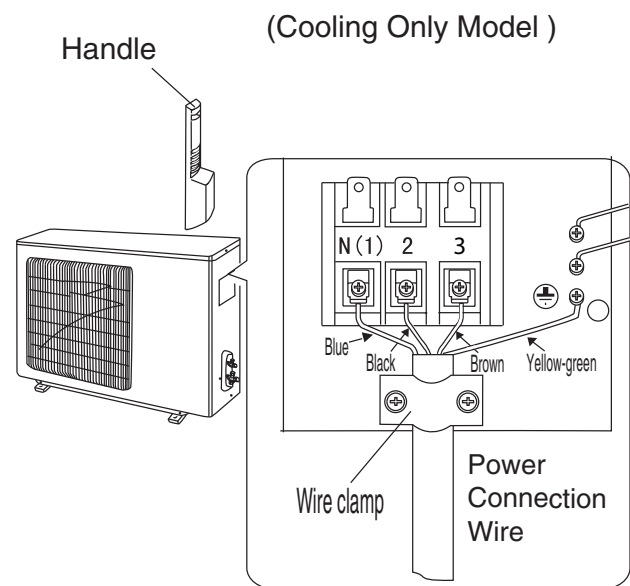

Fig. 24
3. Fix the power connection cable with wire clamp. (Fig. 24 / 25)